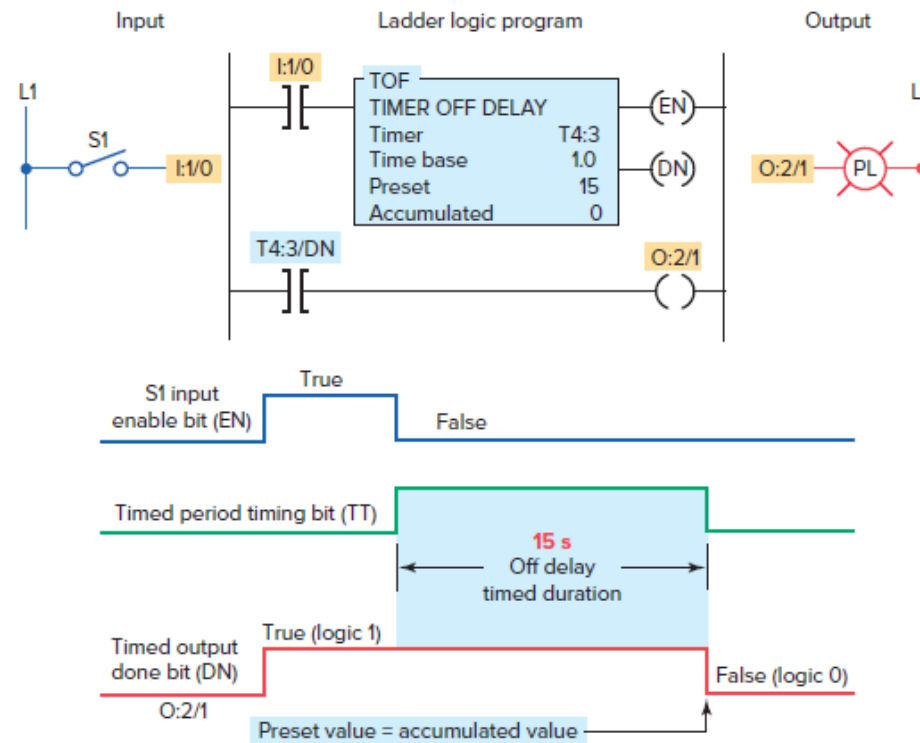

Figure 7-21 Off-delay programmed timer.
- Figure 7-21 illustrates the programming of an off-delay timer that uses the SLC 500 TOF timer instruction.